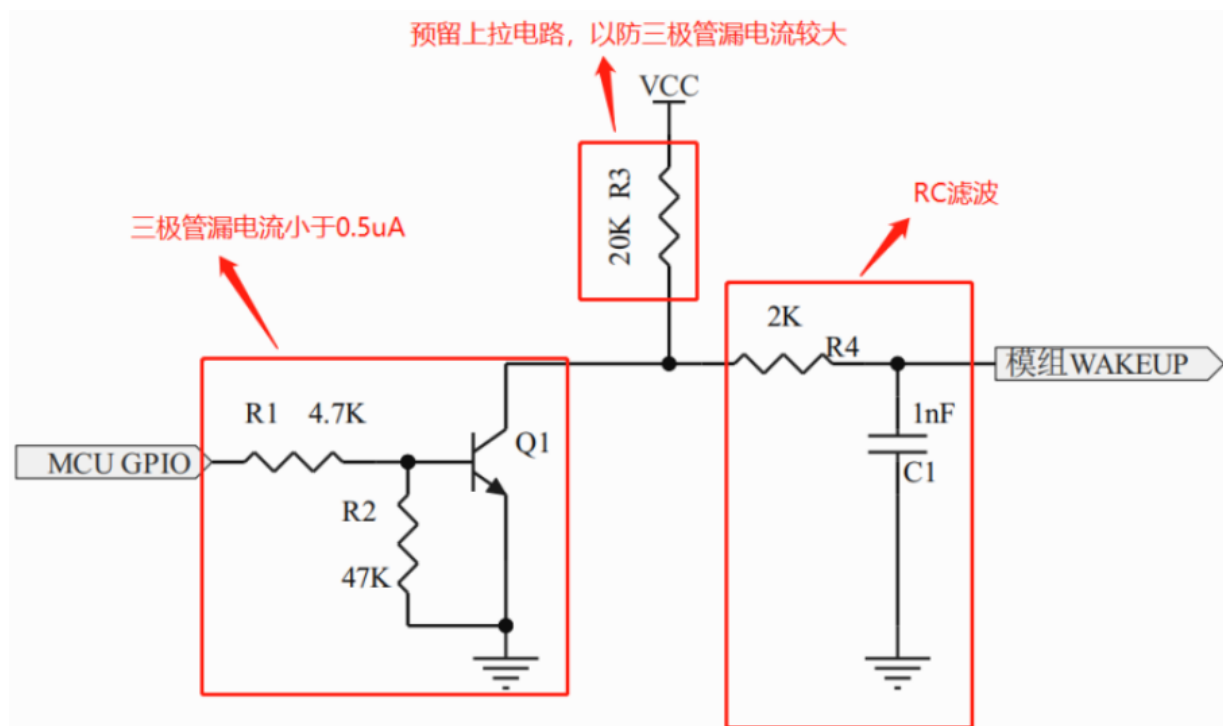

Figure 11 The WAKEUP pin reference circuit
- 1) The pull-up resistor of the WAKEUP pin of the NB chip is very weak and tolerant to interference. To avoid abnormal wake up of the module in the dormant state, add RC filter circuit in the WAKEUP pin(as shown in Figure 11). No this RC circuit exists inside the module, so the peripheral circuit of the user motherboard must be added.
- 2) If the external MCU GPIO is connected to the WAKEUP pin of the module through triode (as shown in Figure 11), the leakage current of the triode cut-off state is required to be less than
- ① With a MOS tube instead of the triode, most MOS leakage current is small.
- ② The pull-up circuit is reserved on the circuit (as shown in Figure 11). The voltage range of VCC is 1.8V~3.6V and often open. Do not use the electricity from the NB module.